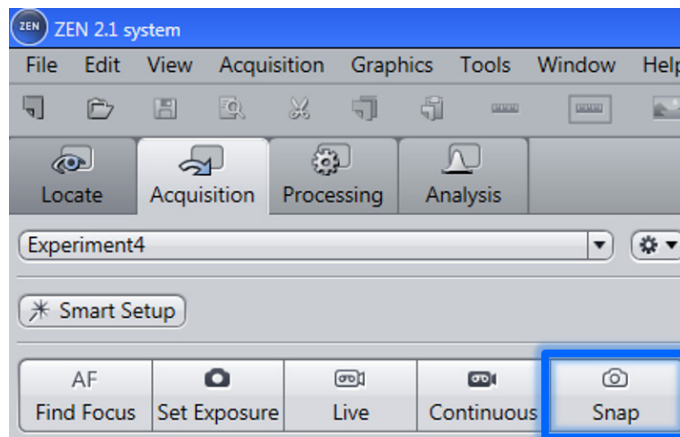

Fig. 23 Starting single image acquisition
- Start the acquisition of a single image using the **Snap** button (Fig. 23).